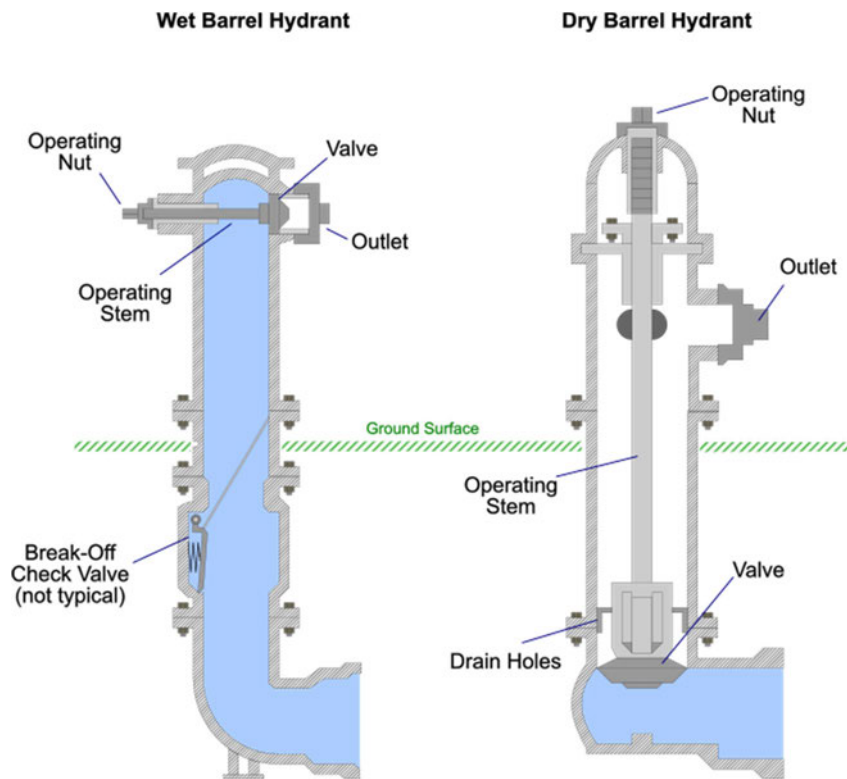

Figure 1-1 Hydrant Types
- Fire hydrant: A connection point placed at a defined location for firefighters to tap into a water supply line. Fire hydrants are also used for flushing distribution systems. *Figure 1-1* shows typical hydrant configurations.